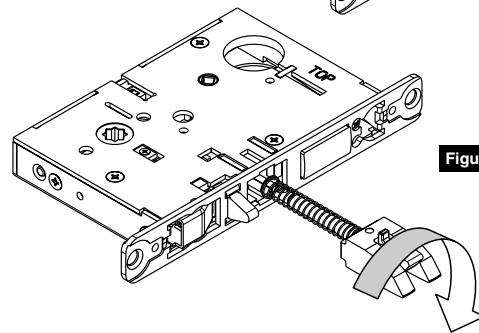

Figure 2
3. Pull latch out of lock-body and turn latch over. (Figure 2)